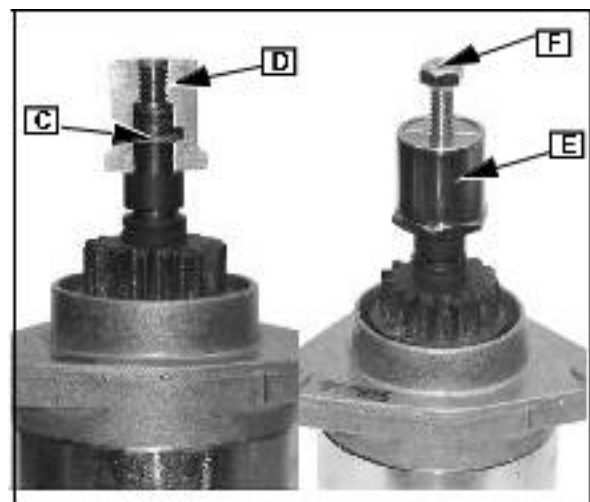

Fig. 40
Place two halves of tool #19467 (D), with hex ends down on armature shaft around snap ring (C) and grooves in two halves on retainer ring, Fig. 40.
Install puller screw ([F] Fig. 40) from tool #19467 in center of two halves, and turn screw in until retainer ring is removed.